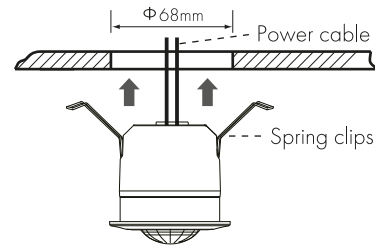

FIG.10
3.4.5 Close up two spring clips of detector and insert detector into the drilled hole on ceiling (See FIG.10).